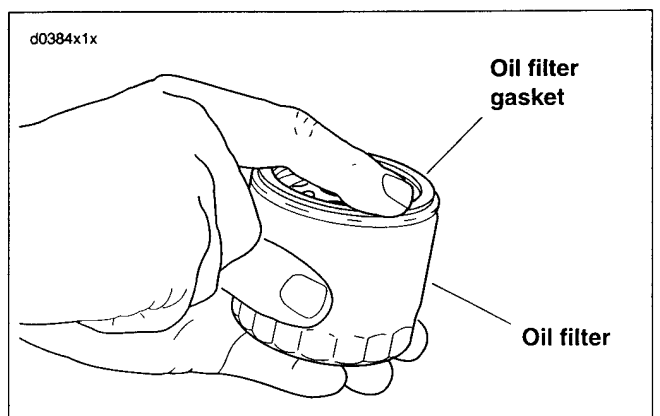

Figure 3-153. Lubricating New Oil Filter
6. See Figure 3-153. Lubricate gasket on **new** oil filter with clean engine oil and install oil filter onto oil filter mount. Hand tighten oil filter 1/2 to 3/4 turn after gasket contacts oil filter mount surface.